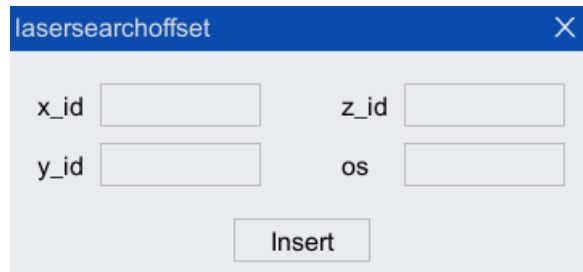

Figure 8-28 Laser search offset parameter configuration
Step1. Click [Insert cmd/Function Pack/weld/ Welding Command/Lasersearchoffset] to enter the laser search offset auxiliary programming instruction interface. As shown in Figure 8-28. The parameter description is shown in Table 8-8.